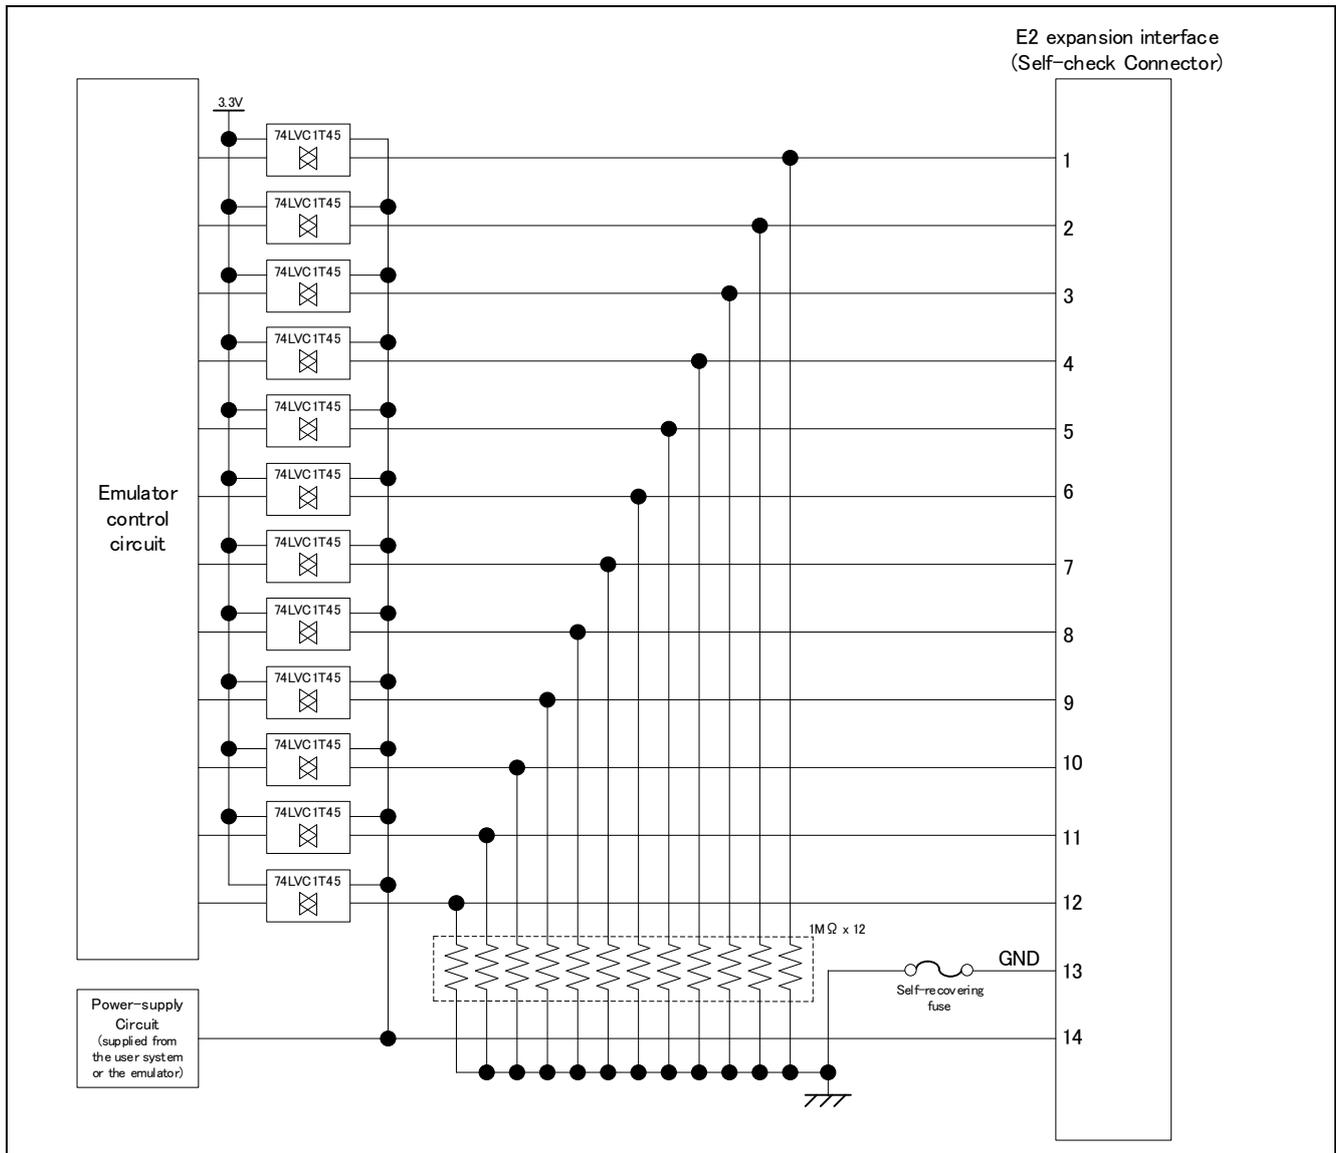

Figure B.2 Internal Circuits of the E2 Expansion Interface
2. For the electrical characteristics of each pin, refer to Figure B.2 and the data sheet of the product to be used.